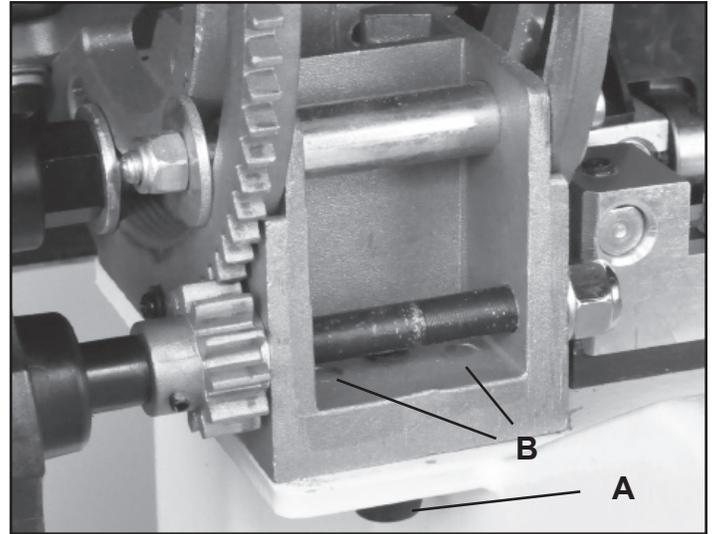

FIGURE 13
1. On the lower Trunnion Support (#17B), slightly loosen the two Hex Bolts (#22B, 25B) that hold the support to the bandsaw frame. Fig. 13, A.
3. Using the 3mm hex wrench, turn the lower trunnion's micro adjusting hex screws (#23B) to adjust the table position. Fig. 13, B.